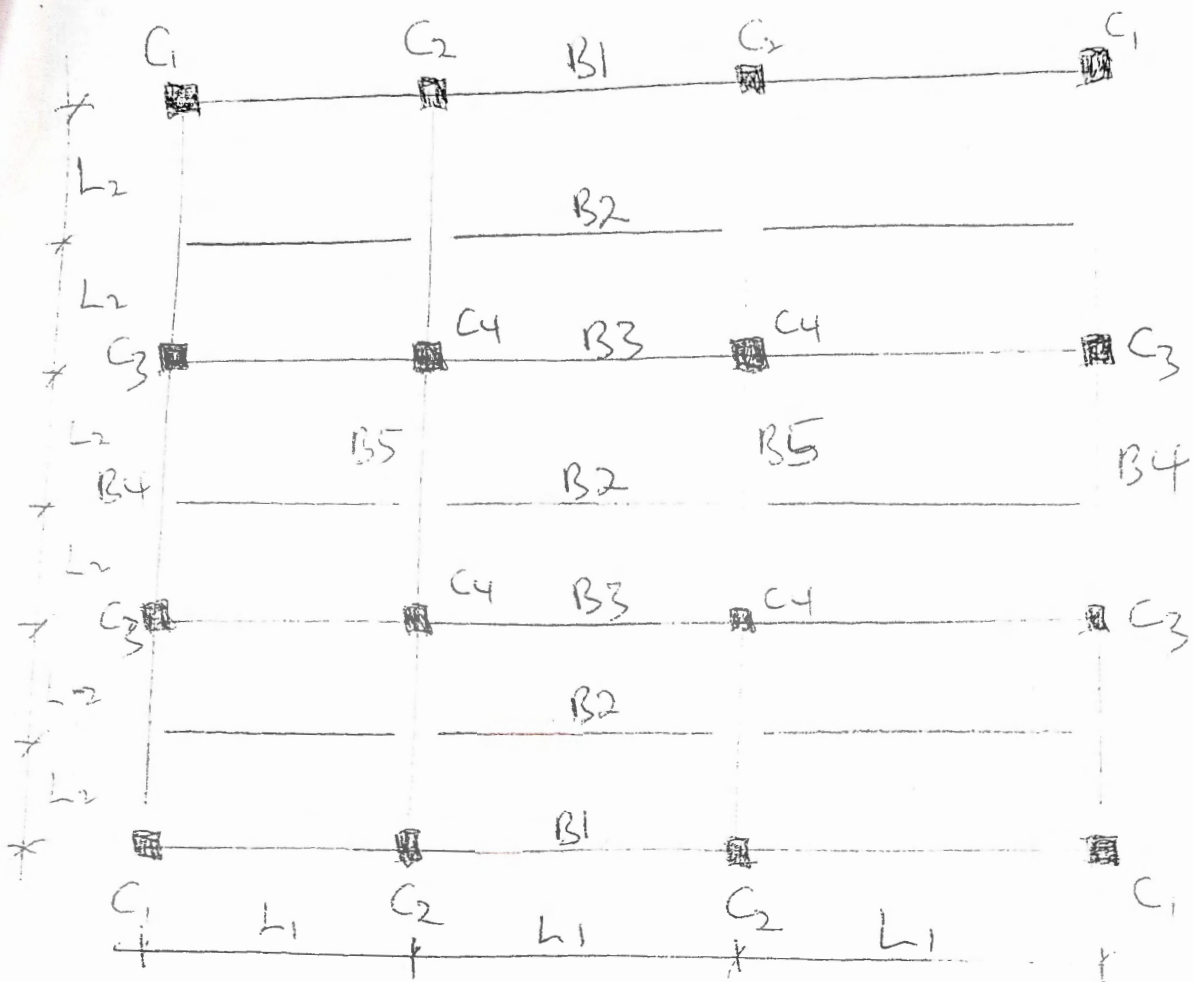

Figure Q5
5. Figure Q5 shows the structural plan of a building. Design the slab if its thickness is 200mm, and loads due to partitioning and finishes are 1.5 kN/m² and 1.0 kN/mm² respectively. Take f_{cu} = 25 N/mm², f_y = 460KN/mm², usage of the building is classrooms, and cover = 25mm. L₁ = 9 m, L₂ = 4 m; cover – 20mm; diameter of reinforcement – 12 mm. (25marks).